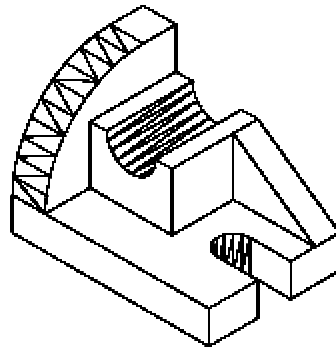

Figure 24-46 Solid aligned with the base
14. Extrude it and move it so that it is properly aligned with the base, see Figure 24-46.